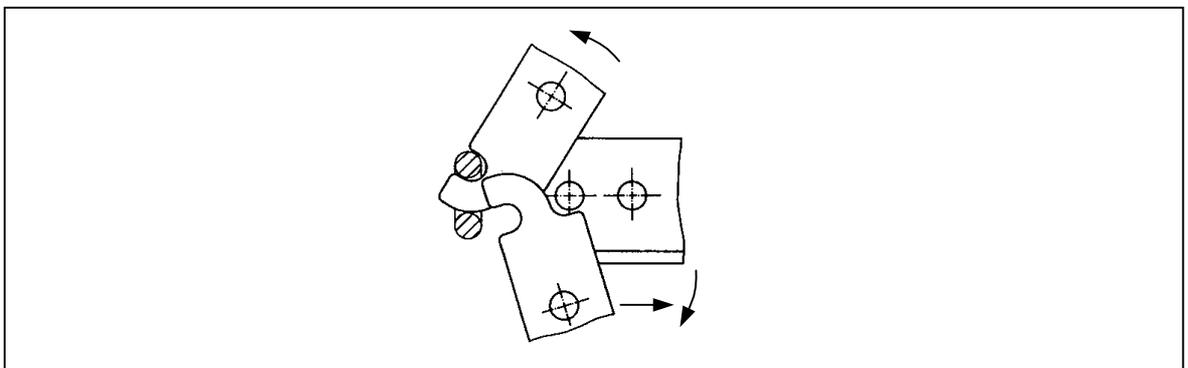

Fig 5
3. Unhook the attachment parts from the chain link as shown in figure 5.